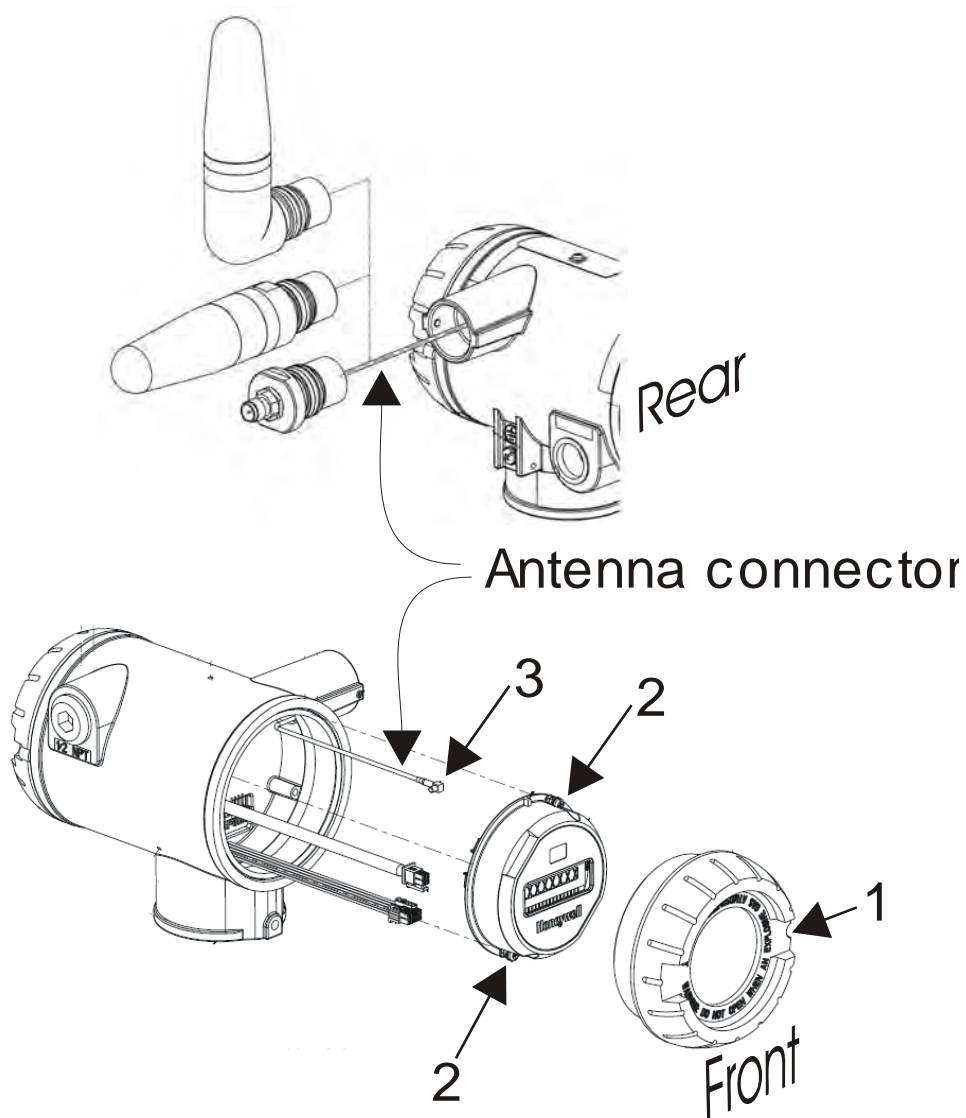

Figure 6-6 Antenna replacement
2	Loosen the M3 locking set screw on the display end-cap. See item 1 in Figure 6-6. Unscrew and remove the front end cap.
3	Loosen the two screws on the sensor module. See items 2 in Figure 6-6.
4	Remove the sensor module from the transmitter body and disconnect the antenna connector from CN2 connector on the sensor module. See item 3 in Figure 6-6.
5	Loosen the locking set screw at the antenna base. Unscrew the antenna from the transmitter. Remove the antenna and its connector from the transmitter. See Figure 6-6.
7	Attach antenna connector to CN2 connector on sensor module. See item 3 in Figure 6-6.
8	Insert sensor module. Orient in the proper viewing orientation before tightening two sensor compartment screws. See items 2 in Figure 6-6. Torque screws to 0,4 – 0,6 N-M (3.5 – 5.3 Lb-in).